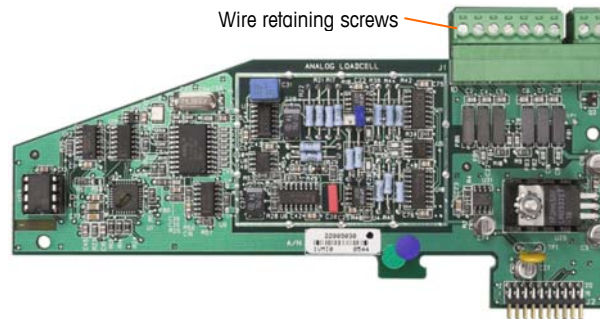
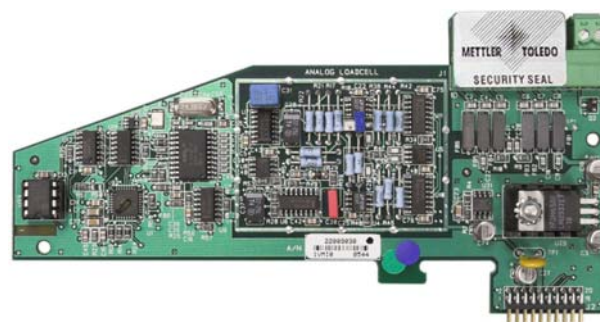

Figure 2-86: Unprotected Option Board Connection
Figure 2-87: Security Seal Installed
3. To protect the load cell interconnecting cable/s (attached to option boards), a security seal must be placed over the connectors to ensure that they are not removed or disconnected. The seal also prevents access to the wire retaining screws indicated in Figure 2-86. Figure 2-87 shows a seal in place.